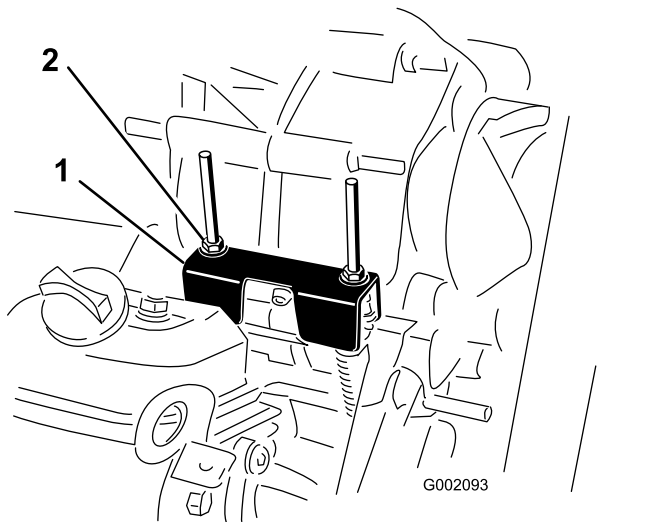

Figure 58
When performing routine maintenance and/or engine diagnostics, the transaxle must be shifted into NEUTRAL (Figure 58). The machine has a NEUTRAL position on the shift lever, which controls the neutral in the transaxle. Perform the following steps to ensure that the neutral shift lever operates the transaxle neutral correctly:
- Ensure that the neutral bracket is in the NEUTRAL position (level to the cable mounting bracket located below the shift bracket) by turning the driven clutch (Figure 58).
- Rotate 1 of the locknuts (Figure 58) to achieve a 0.762 to 1.524 mm (0.030 to 0.060 inch) gap between the bottom of the nut/washer and the neutral bracket.